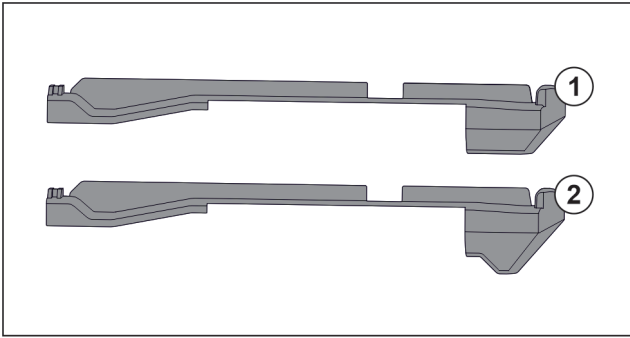

Fig. 149 Comparing attachments
There are two different attachments in the appliance. The attachment above the lowest drawer *Fig. 149 (2)* has a three-cornered edge. All other attachments *Fig. 149 (1)* have a straight edge.
- ▶ Fit attachment *Fig. 149 (2)* with the three-cornered edge above the lowest drawer.
- ▶ Fit attachment *Fig. 149 (1)* with straight edge in all other positions.